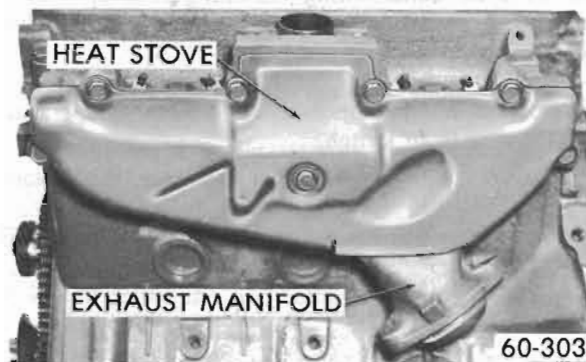

Figure 60-76 - Exhaust Manifold Installation (350 Left Side Shown)
6. Assemble exhaust manifolds to heads. See Figure 60-76. Torque bolts to 18 lb. ft.